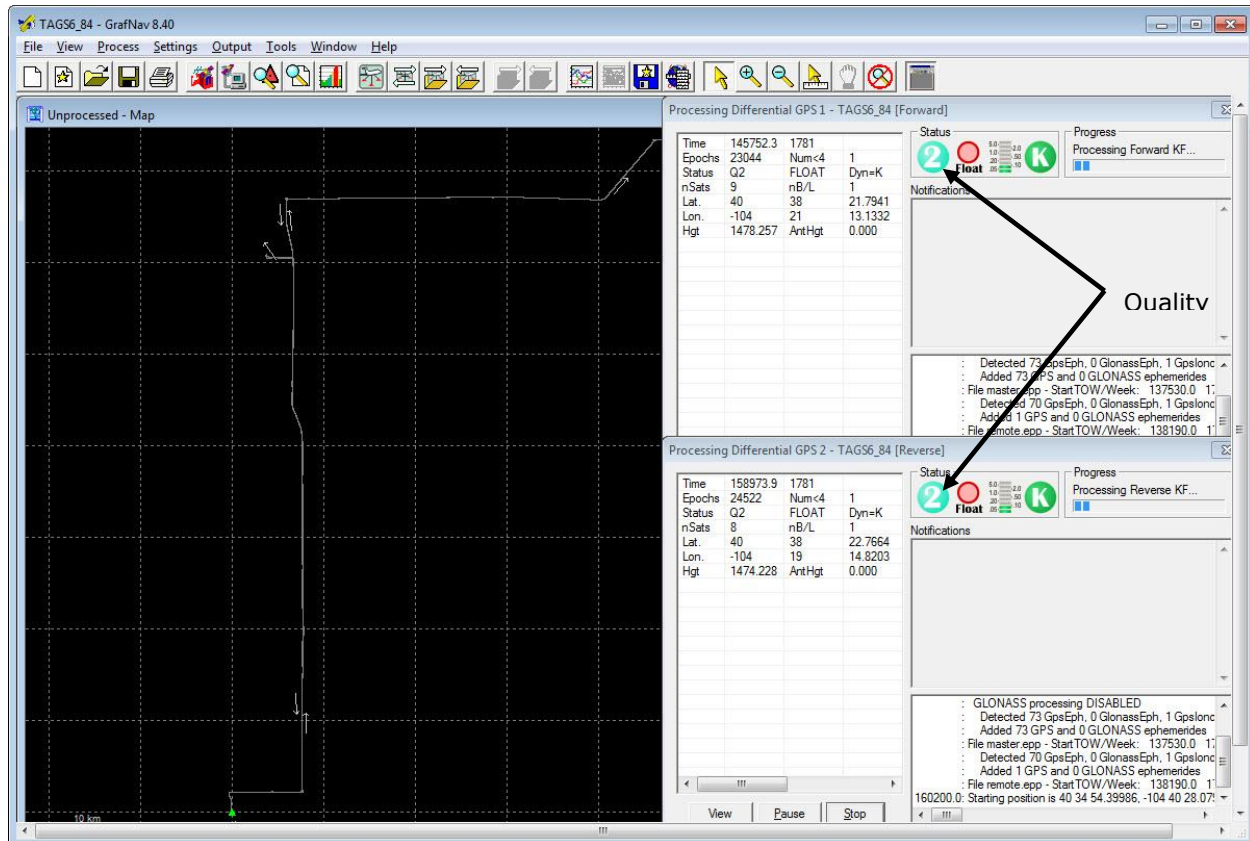

Figure 7-9 Unprocessed Map And The Processing Differential Forward / Reverse Dialogs
- Watch the Quality Factor value during processing (Figure 7-9). The Quality Factor value range should be mostly 1 or 2.